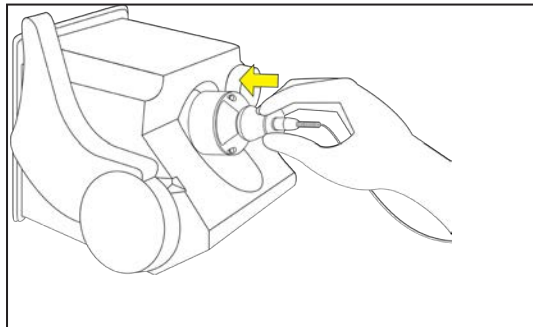

Figure 13. Attaching the power module to the TripSaver II recloser.
STEP 2. Position the power module near the base of the TripSaver II recloser; the module will be held in place magnetically. See Figure 13.